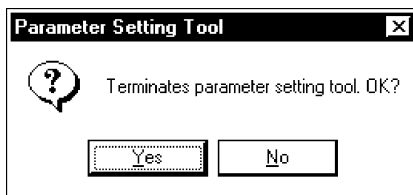

Figure 3.1.5 Close Dialog Box
- (3) The message box in Figure 3.1.5 appears for confirmation.